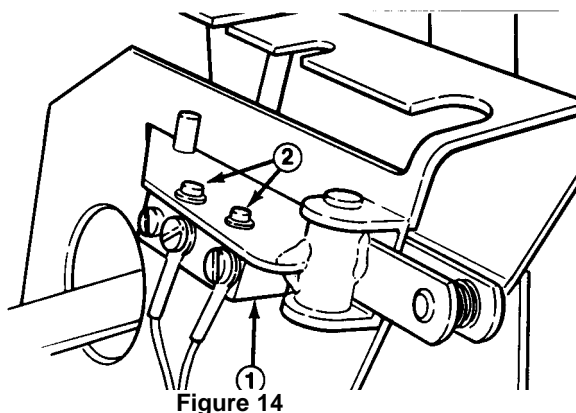

Figure 14
2. Check the clutch switch (Fig. 14) with a continuity tester or ohm meter and replace it if damaged. The switch must be closed when the gear shift lever is in a gear. The switch must open when shifting between Neutral, First, and Second gears.
- C. Push down on the override lever (Fig. 14) until the holes in lever bracket and the coring bracket are aligned, then insert the pin through the holes.